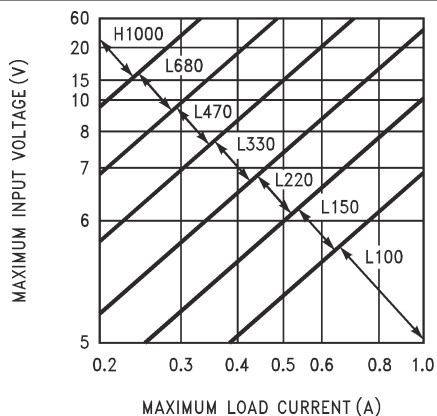
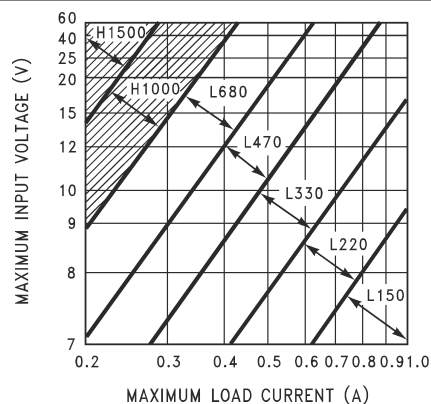
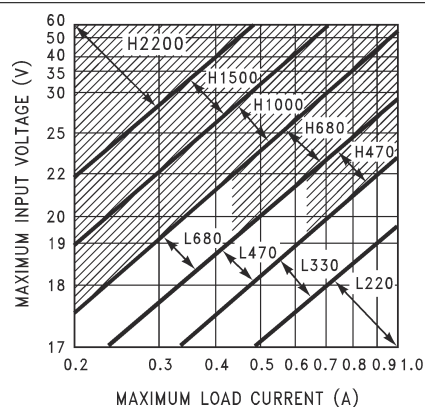

图 9-2. TL2575-33
图 9-3. TL2575-50
图 9-5. TL2575-15
1. Inductor Selection (L1) A. From 图 9-2 through 图 9-5, select the appropriate inductor code based on the intersection of $V_{IN(\text{Max})}$ and $I_{LOAD(\text{Max})}$. B. The inductor chosen should be rated for operation at 52-kHz and have a current rating of at least $1.15 \times I_{LOAD(\text{Max})}$ to allow for the ripple current. The actual peak current in L1 (in normal operation) can be calculated as follows: $I_{L1(\text{pk})} = I_{LOAD(\text{Max})} + (V_{IN} - V_{OUT}) \times t_{on} / 2L1$ Where $t_{on} = V_{OUT} / V_{IN} \times (1 / f_{osc})$	1. Inductor Selection (L1) A. From 图 9-3 (TL2575-05), the intersection of 20-V line and 1-A line gives an inductor code of L330. B. L330 $\rightarrow$ L1 = 330 μ H Choose from: 34042 (Schott) PE-52627 (Pulse Engineering) RL1952 (Renco)